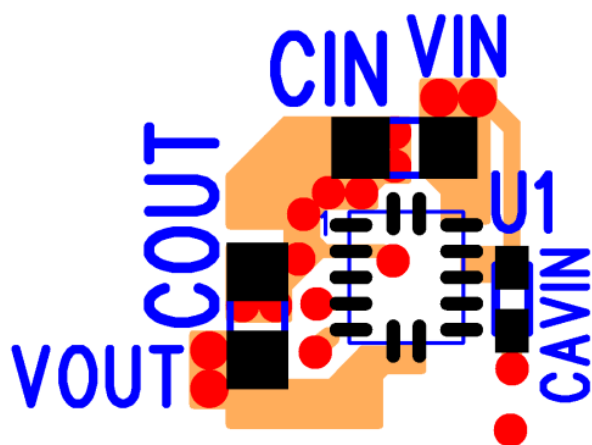

Figure 4: Top PCB Layer Critical Components and Copper for Minimum Footprint
Figures 4 and 5 show critical PCB top and bottom layer components and traces for a minimum-footprint recommended EP5348 layout with ENABLE tied to  $V_{IN}$ . Alternate ENABLE configurations need to be connected and routed according to specific customer application. This layout consists of four layers. For the other 2 layers and the exact dimensions, please see the Gerber files at [www.enpirion.com](http://www.enpirion.com). The recommendations given below are general guidelines. Customers may need to adjust these according to their own layout and manufacturing rules.
**Recommendation 5:** AVIN is the power supply for the small-signal control circuits. It should be connected to the input voltage at a quiet point. In Figure 4 this connection is made at the vias just before  $C_{IN}$ . There is an additional decoupling capacitor  $C_{AVIN}$  for AVIN which is connected between the device pin and the GND plane.
**Recommendation 7:** The top layer 1 metal under the device must not be more than shown in Figure 4. As with any switch-mode DC/DC converter, try not to run sensitive signal or control lines underneath the converter package on other layers.